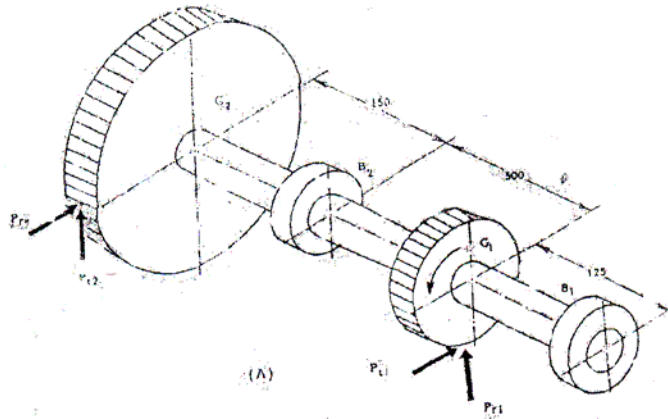

Figure 7
12. A shaft transmitting 50 kW at 125 rpm from G1 to gear G2 and mounted on two single row deep groove ball bearings B1 and B2 as shown in Figure 7. The gear tooth forces are